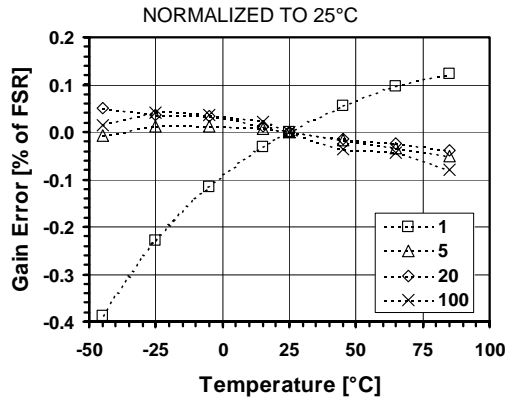

Figure 16-19. Gain error vs. temperature for different PGA gains
- (7) Resolution is given by  $n = 2 \cdot \log_2(OSR) + \log_2(N_{ELCONV})$ .  $OSR$  can be set between 8 and 1024, in powers of 2.  $N_{ELCONV}$  can be set to 1, 2, 4 or 8.
- (8) If a ramp signal is applied to the input, all digital codes appear in the resulting ADC output data.
- (9) Gain error is defined as the amount of deviation between the ideal (theoretical) transfer function and the measured transfer function (with the offset error removed). (See Figure 16-19)
- (10) Offset error is defined as the output code error for a zero volt input (ideally, output code = 0). For  $\pm 1$  LSB offset,  $N_{ELCONV}$  must be  $\geq 2$ .
- (11) INL defined as the deviation of the DC transfer curve of each individual code from the best-fit straight line. This specification holds over the full scale.
- (12) DNL is defined as the difference (in LSB) between the ideal (1 LSB) and measured code transitions for successive codes.
- (13) Figures for Gains = 1 to 100. PSRR is defined as the amount of change in the ADC output value as the power supply voltage changes.
- (14) Conversion time is given by:  $T_{CONV} = (N_{ELCONV} \cdot (OSR + 1) + 1) / f_S$ .  $OSR$  can be set between 8 and 1024, in powers of 2.  $N_{ELCONV}$  can be set to 1, 2, 4 or 8.
- (15) PGAs are reset after each writing operation to registers RegAcCfg1-5. The ADC must be started after a PGA or inputs common-mode stabilisation delay. This is done by writing bit  $Start$  several cycles after PGA settings modification or channel switching. Delay between PGA start or input channel switching and ADC start should be equivalent to  $OSR$  (between 8 and 1024) number of cycles. This delay does not apply to conversions made without the PGAs.
- (16) Nominal (maximum) bias currents in PGAs and ADC, i.e.  $IB\_AMP\_PGA[1:0] = '11'$  and  $IB\_AMP\_ADC[1:0] = '11'$ .
- (17) Bias currents in PGAs and ADC set to 3/4 of nominal values, i.e.  $IB\_AMP\_PGA[1:0] = '10'$ ,  $IB\_AMP\_ADC[1:0] = '10'$ .
- (18) Bias currents in PGAs and ADC set to 1/2 of nominal values, i.e.  $IB\_AMP\_PGA[1:0] = '01'$ ,  $IB\_AMP\_ADC[1:0] = '01'$ .
- (19) Bias currents in PGAs and ADC set to 1/4 of nominal values, i.e.  $IB\_AMP\_PGA[1:0] = '00'$ ,  $IB\_AMP\_ADC[1:0] = '00'$ .
Figure 16-19 shows gain error drift vs. temperature for different PGA gains. The curves are expressed in % of Full-Scale Range (FSR) normalized to 25°C.